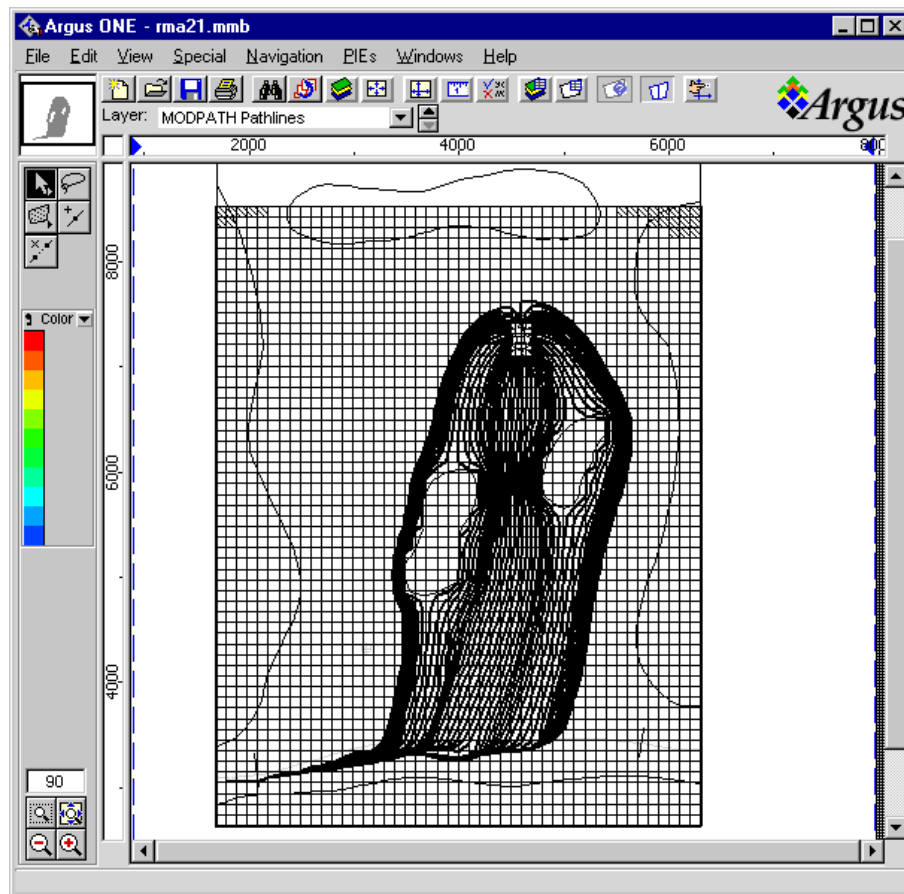

Figure 29. MODPATH Pathlines.
22. To plot the results from MODPATH, select **PIEs|MODPATH Post Processing**. Click on the **Read Data** button and select a pathline file created by MODPATH. It will have the extension "lin". The data will be read and plotted in the dialog box. If the file is large, this may take a while and a progress bar will be displayed. To import this data into Argus ONE™, click the **OK** button. Another progress bar will be displayed as the data are imported into Argus ONE™. The progress bar may appear somewhat "jerky" in the way it progresses and Argus ONE™ may redraw several times during the process of drawing the contours. This is normal. It is possible to speed up the process of exporting contours by making sure that the redraw process is fast. The redraw process is faster if only a small portion of the model is displayed, no cells are colored, and layers with lots of contours are hidden. The pathlines will be plotted on a layer named **MODPATH Pathlines** as illustrated in figure 29. Each contour will have four parameters: **Starting Layer**, **Starting Time**, **Ending Layer**, and **Ending Time**.